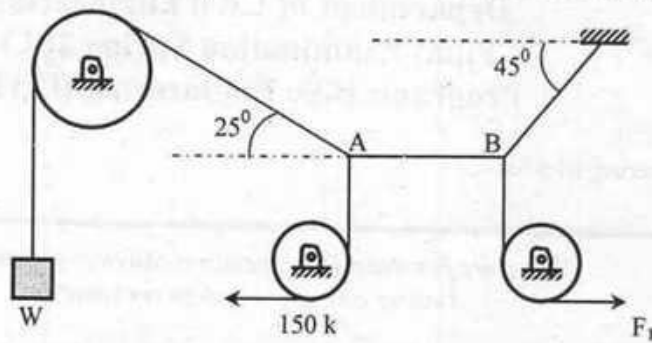

Figure-4
4. In the figure-4 shown below, find W and F_1 so that the cable AB remains horizontal.